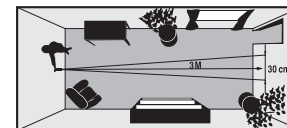

FIG. 1 - The sound waves emitted from this unit spread 1 ft (30 cm) for every 10 ft (3m) measured.
- 4) Make certain you have a clear path to the surface (wall). (See FIG. 1.)